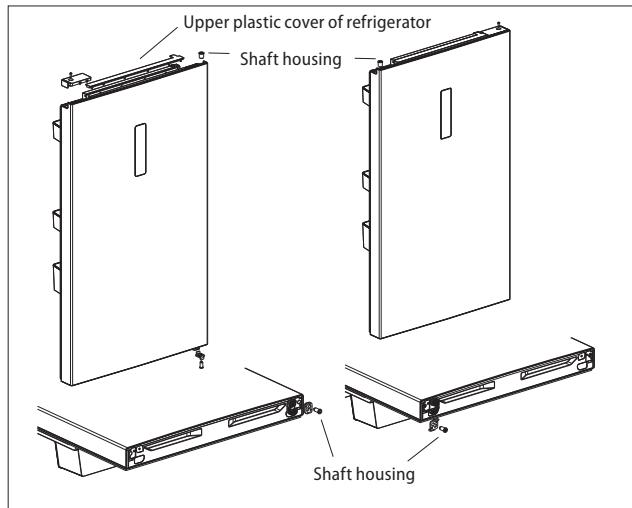

Fig. 4
- Remove the upper plastic cover from the upper edge of the refrigerator door (Fig. 4).
- Remove the housing for fixing the upper refrigerator hinge and place it on the other side of the door (Fig. 4). After moving the housing, place the upper plastic cover back.
- Remove the plastic door stop, the metal holder, and the shaft housing for fixing the middle hinge of the refrigerator from the bottom edge of the refrigerator door (Fig. 4).